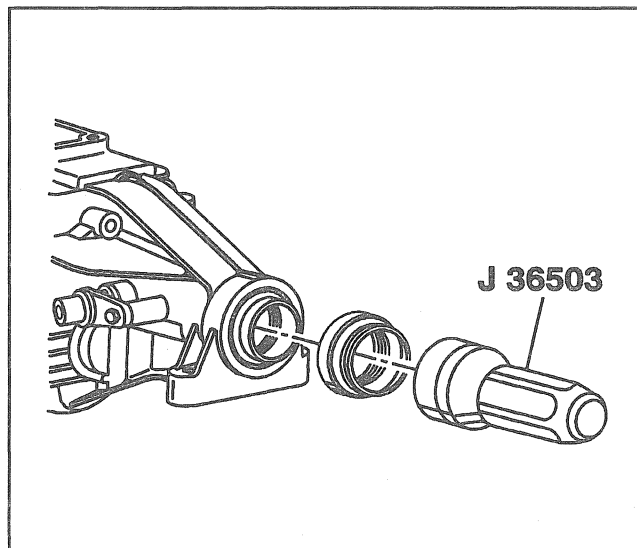

Figure 6—Extension Oil Seal Installation (2WD Models)
Install or Connect (Figure 6)
1. New extension oil seal, using J 36503 (Figure 6).